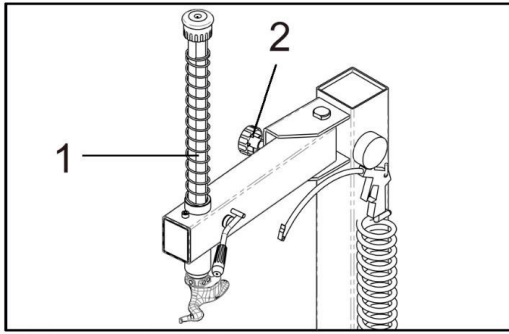

FIG7
4.1.3 Position the hexangular shaft (FIG 2-3) to the working position to make the demount tool close to the rim of the wheel. And use the hand wheel (FIG 7 -2) to push against the rocker arm and then use the lock handle (FIG 2-17) TO LOCK. The demount tool will automatically move a little of gap (FIG16) The angle of the demount tool has been calibrated according to the standard rim 13"). If handling the extra-big or extra-small rim, you can reposition.